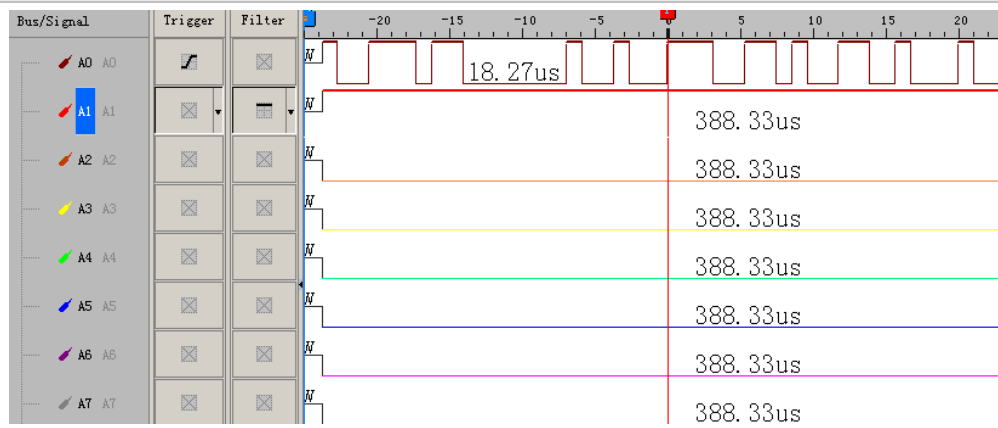

Fig 4-141 – Without/With Signal Filter Setup
1. Click on the **Activate Filter Delay** as shown in Fig 4-141.